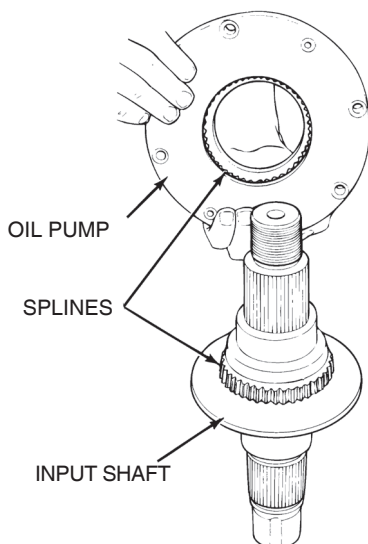

Figure 5.70
- If a spline design pump is used, verify that the splines in the pump are aligned with the splines on the shaft. Figure 5.70.